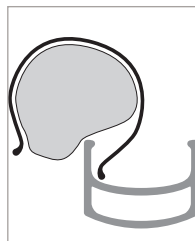

FIGURE 3.42
5. With only your hands, install the first bead onto the rim (Figure 3.42). Start at the valve stem.